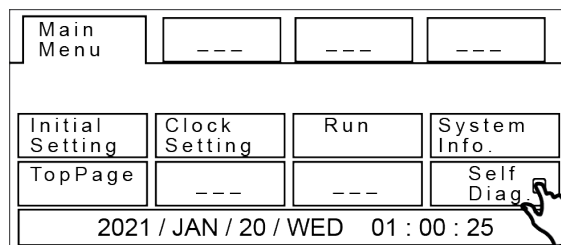

Figure 39. Main Menu Screen
- d. On the Main Menu screen touch the **Self Diag** button (see Figure 39)